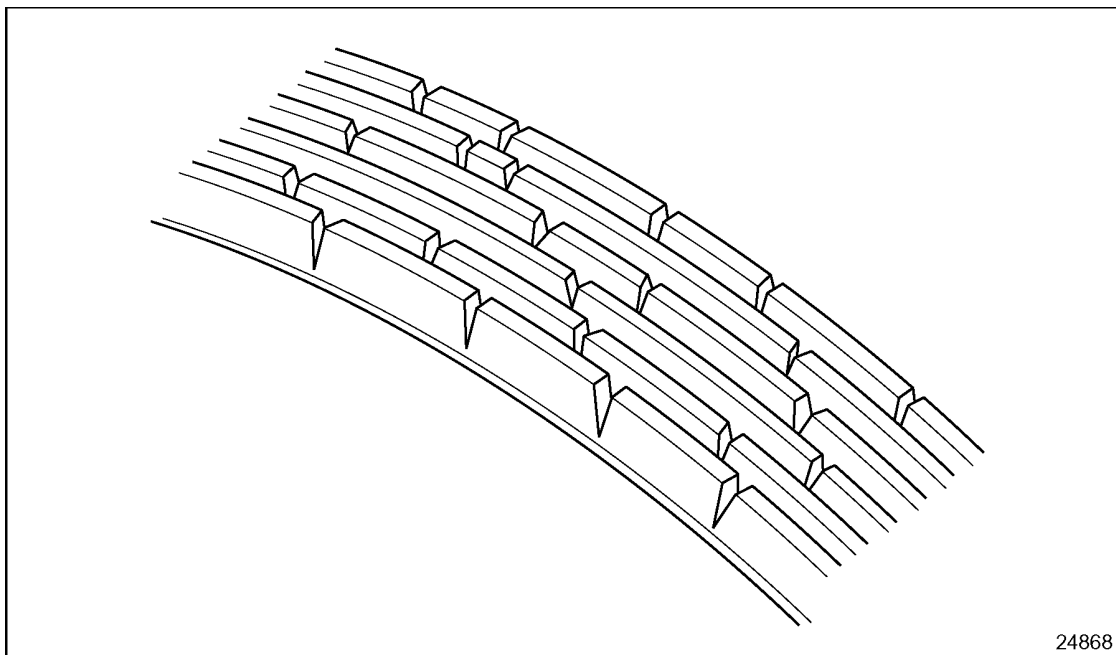
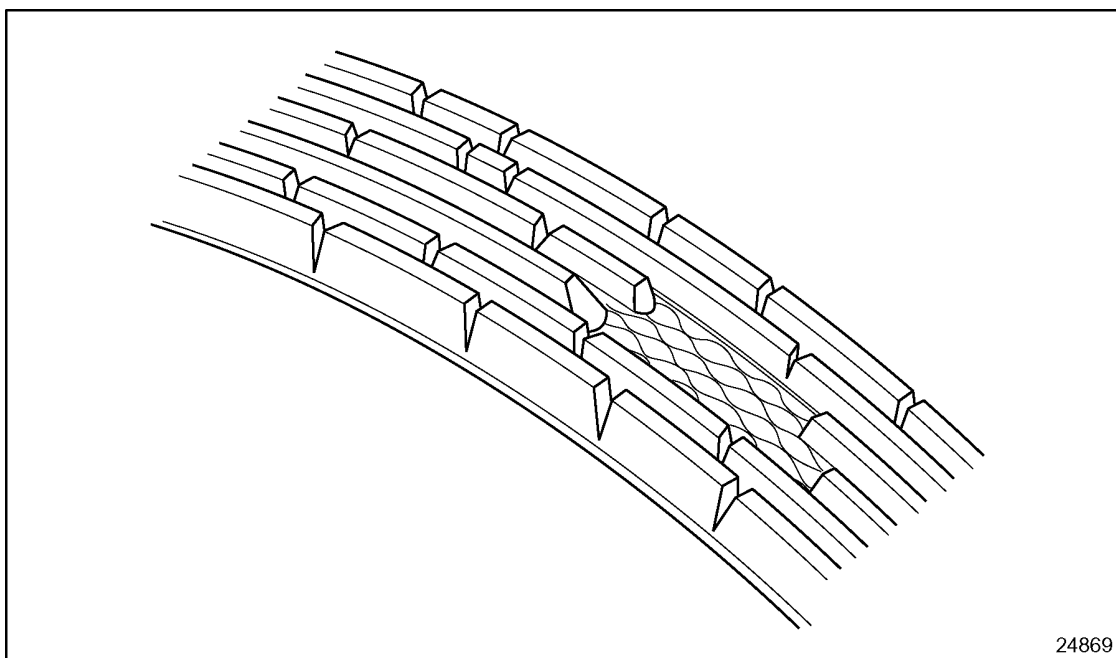

Figure 13-4 Severe Rib Cracking
Figure 13-5 Rib Chunking
- ☐ A replacement concern occurs when the belt ribs exhibit severe multiple cracking (see Figure 13-4). This leads to "chunking" (breaking away of rib material). see Figure 13-5